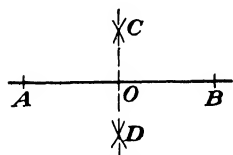

Fig. 118.
a. Open a compass a distance which you estimate to be greater than one-half of  $AB$  (see Fig. 118).